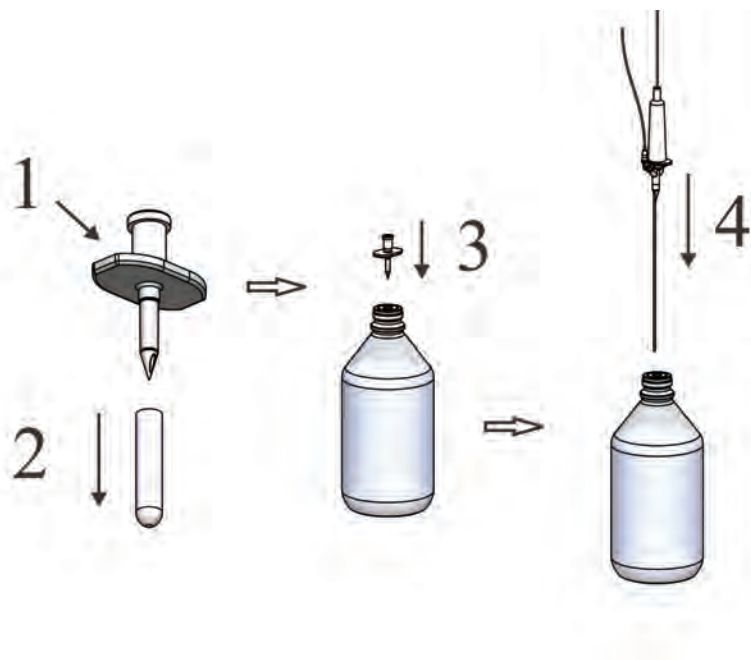

Figure 4.5. AFI Setup instructions.
- n. Spike and hang the Balanced Salt Solution bottle on the automated IV pole or the Zero Level hanger if using AFI. Squeeze and release the drip chamber until it is half filled with solution. (For AFI setup, use the spiking tool provided to puncture the rubber stopper on the bottle before inserting the metal cannula into the bottle.) (Circulating Nurse) See Figure 4.5.